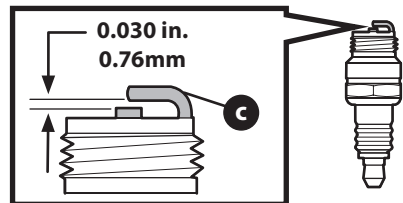

Figure 11
3. Measure the plug gap with a feeler gauge. Correct as necessary by bending side electrode (c) (Figure 11). The gap should be set to 0.030 in (0.76mm).